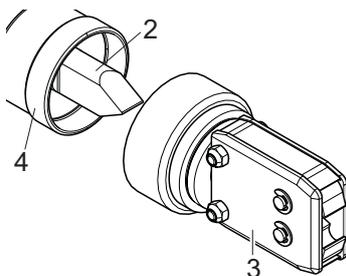
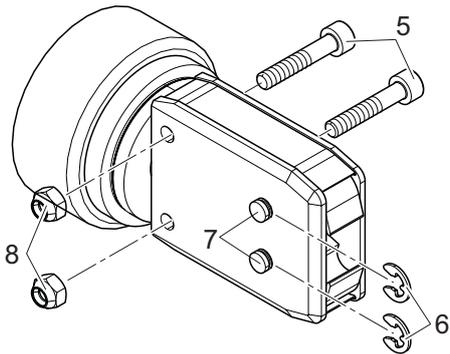
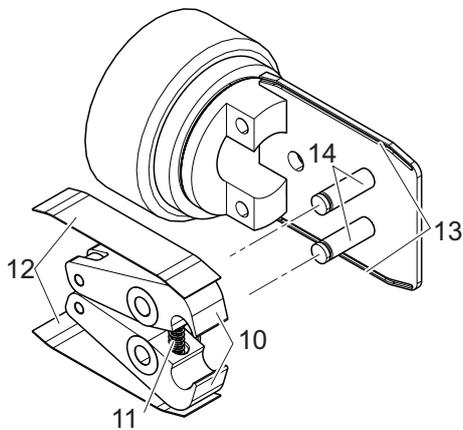

Fig. 26: Pulling off the pincer head
Fig. 27: Dismantling the pincer head
Fig. 29: Fitting the pincer jaws
3. Pull the pincer head (Fig. 26/3) off the clamp pincer (Fig. 26/4). The plunger (Fig. 26/2) remains in the clamp pincer (Fig. 26/4).
4. Remove the two lock washers (Fig. 27/6) from the pincer head (Fig. 26/3). Do not push the pins (Fig. 27/7) back!
5. Unscrew both hexagon nuts (Fig. 27/8) from the hexagon bolts (Fig. 27/5).
7. Remove the pressure spring (Fig. 29/11), the cover plate (Fig. 29/12) and the pincer jaws (Fig. 29/10).
8. Lubricate the replacement jaws (*Fig. 29/10*) and the compression spring (*Fig. 29/11*) from the jaw replacement kit as well as the pins (*Fig. 29/14*) with special RENOLIT LX 2 lubricant and insert the new jaws and spring.
9. Reassemble everything in reverse order with new lock washers (*Fig. 27/6*).
10. Check the mobility of the pincer jaws (*Fig. 29/10*).
- The plunger (*Fig. 26/2*) must be positioned between the two pincer jaws (*Fig. 29/10*).